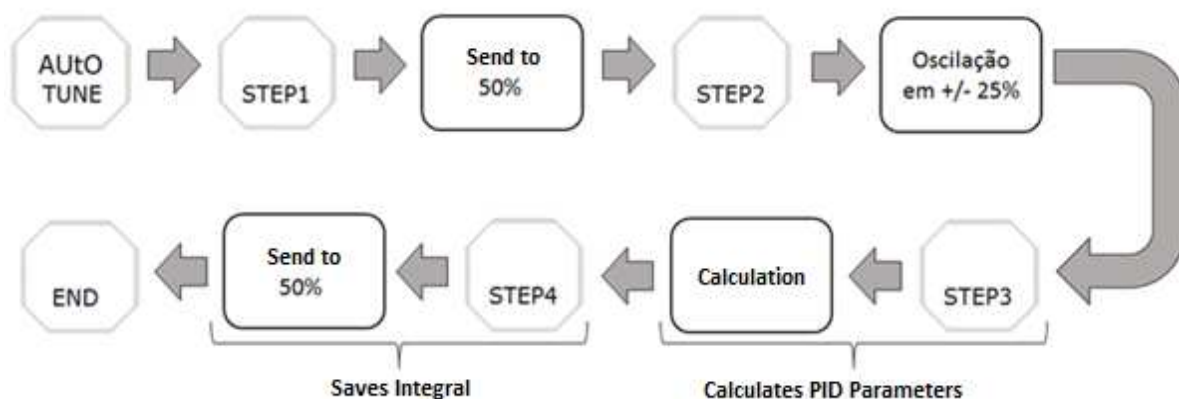

Figure 3.8 – Diagram for PID control tuning.
- **Auto Tuning:** performs the automatic tuning procedure of PID control, calculating the optimized values of the parameters Proportional (Kp), Integral (Tr) and Derivative (Td) through data collected in repeated oscillations of the system (according to the applied pressure). Figure 3.8 indicates procedure steps.